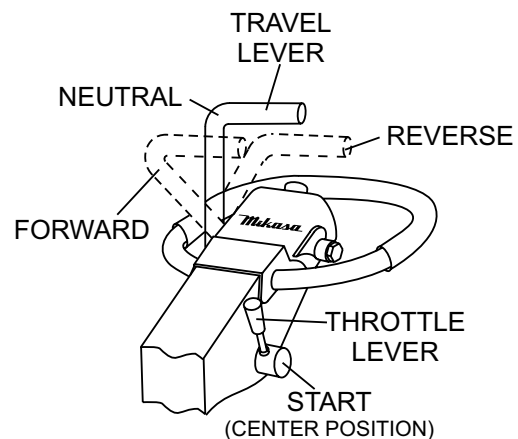

Figure 14. Travel/Throttle Lever (Start Position)
2. Place the throttle lever (Figure 14) in the START position (center). Place the travel lever in the neutral position (center)
2. Move the throttle lever to the **START** position (Figure 14).
1. Return the throttle lever to the **START** position (Figure 14). Allow the machine to cool down for 2 to 3 minutes.